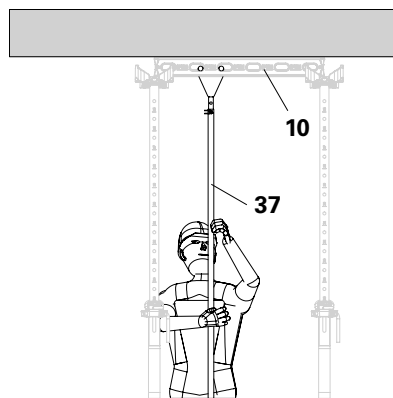
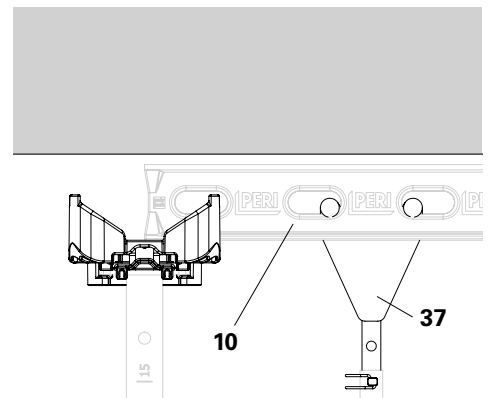

Fig. D1.04a
Fig. D1.04b
3. Pull the DP panel (**10**) down onto the prophead and prop it up again on the DUO shuttering aid (**37**). (Fig. D1.04a + Fig. D1.04b)